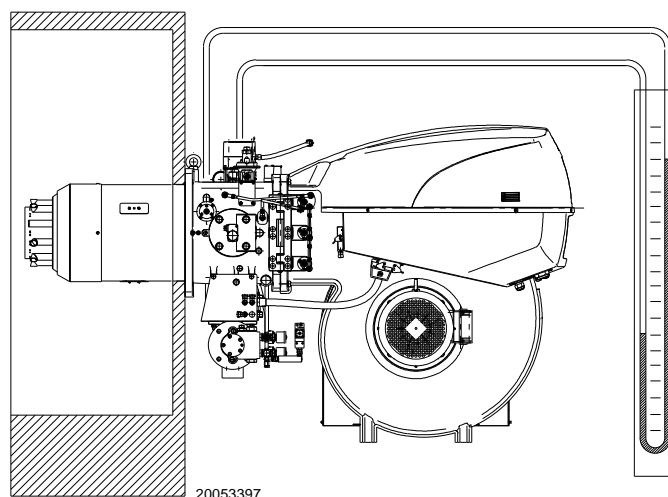

Fig. 34
- Fit a U-type pressure gauge or a differential pressure gauge (Fig. 34), with socket (+) on the gas pressure of the pipe coupling and (-) in the combustion chamber.
The arrival of gas at the sleeve is indicated by the U-type manometer (Fig. 34).